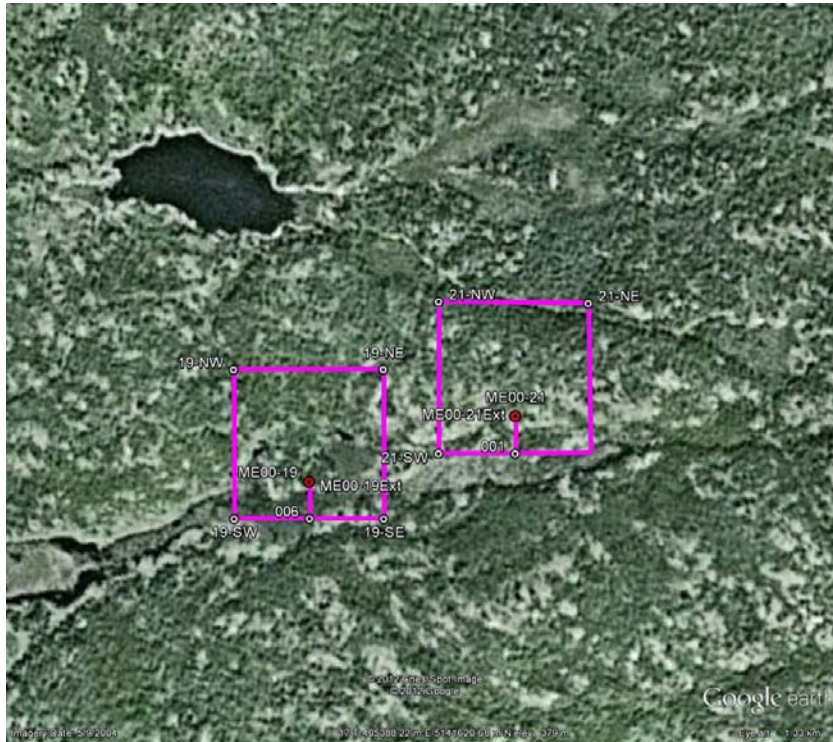

Figure 4: ME00-19Ext and 21Ext Drill Hole and Loop Location Sketch
- **Profiles:** X, Y, Z and Total Field components 4 axis data and profiles @ 1:2000 for borehole and 1:5000 for surface with vertical profile scales to best display response (Figure 4)